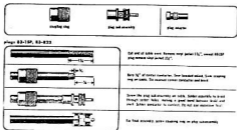

FIGURE 2. Assembly Instructions for a PL-259 Coax Connector.
**ANTENNA COAX** - Use only RG-8/U coax (or its equivalent) to connect the 1KD-5 to the antenna. A PL-259, UHF type, coax connector is included in the accessory kit. Prepare the cable and connector as described in Figure 2. The PL-259 mates with the jack marked OUTPUT on the rear panel of the amp.